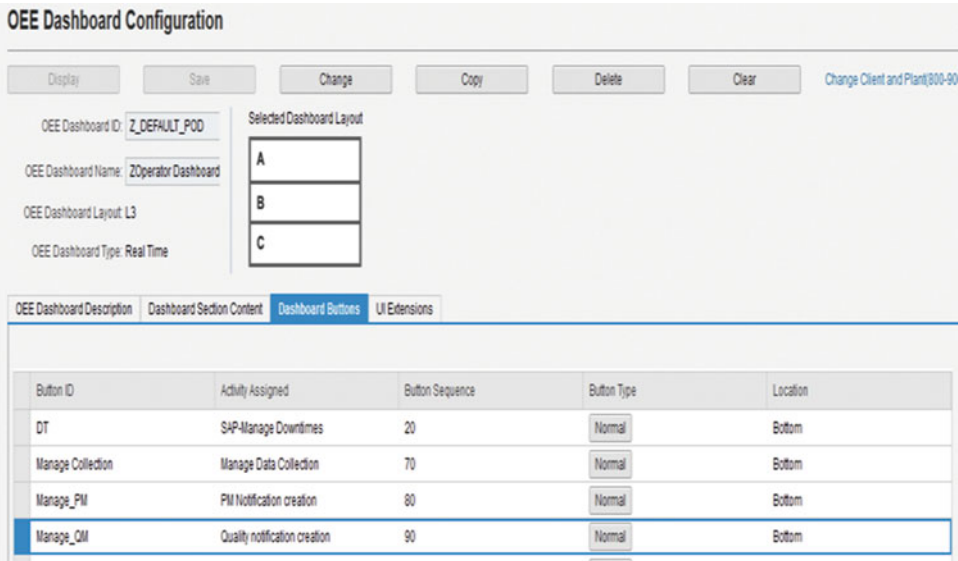
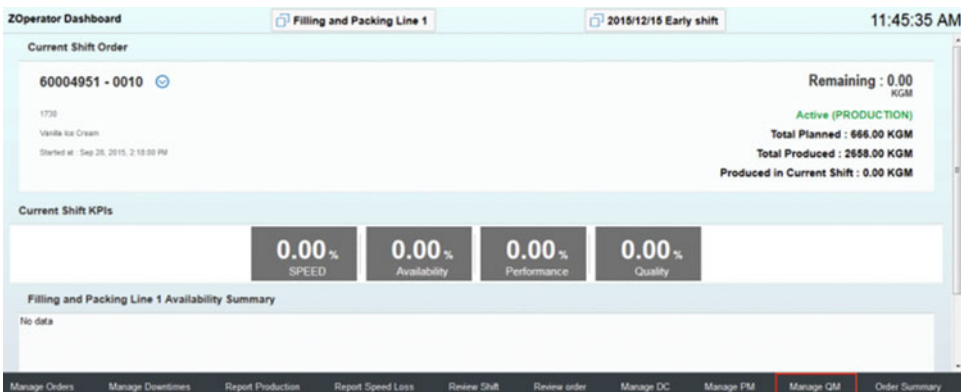

Figure 7-38. Add “Monitor QM” custom dashboard as a dashboard button
Figure 7-39. Add “Monitor QM” custom dashboard as a dashboard button
5. Add this custom dashboard to a custom dashboard button using the dashboard configuration worker UI. Follow the steps in Scenario 4 to add the custom button. The custom activity “Manage QM” created in step 2 is assigned to the dashboard button. Refer to Figure 7-38.
6. Refer to Figure 7-38, where the preceding configured custom dashboard can be viewed; on selection of this button from the standard dashboard, you can navigate to the custom OEE dashboard. Refer to Figure 7-39.